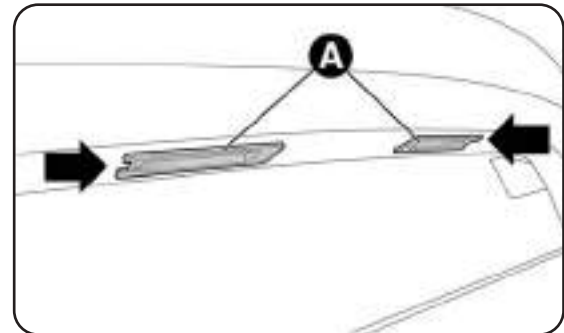

fig. 24
- remove the lens units A - fig. 24 by acting on the points shown by the arrows;